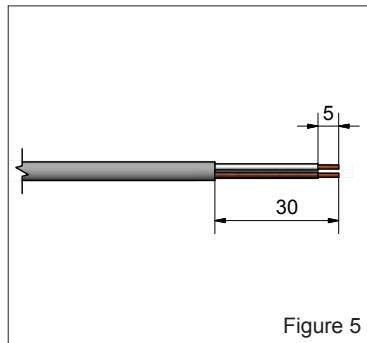

Figure 5
- Carefully strip approximately 30 mm of the outer sheath at the end of the power supply cable. Then strip approximately 5 mm of the inner insulation on both wires, see Figure 5.
11. **Siren cable:** Measure the length of the cable between the siren and the alarm unit. Cut. Carefully strip approximately 30 mm of the outer sheath at both ends of the siren cable. Strip approximately 5 mm of the inner insulation on both wires, see Figure 5.